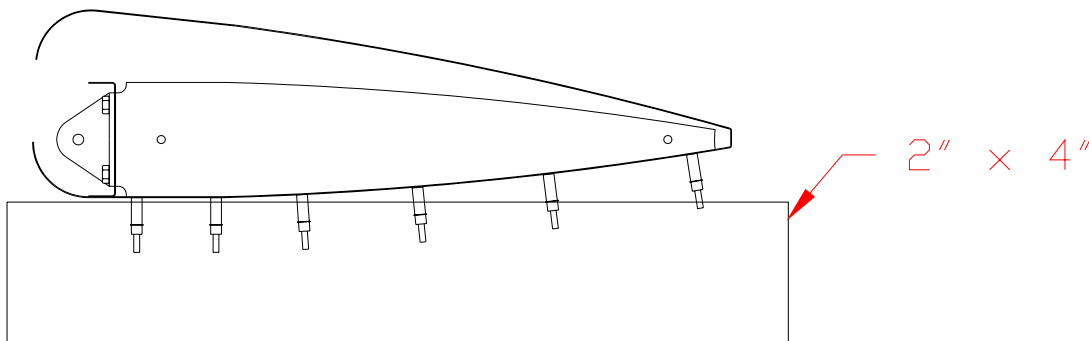

Figure 5.2.1
1) Position two 2 x 4s on a level work surface approx. 40" apart. See figure 5.2.1.